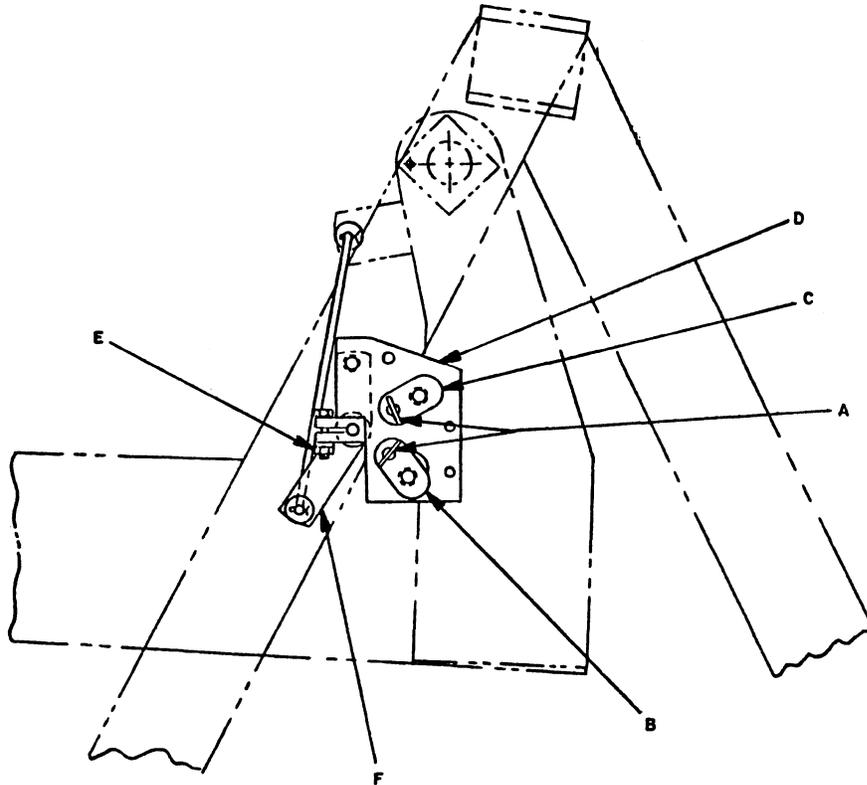

FIGURE 6
1. The first adjustment to be made on the second table is the second table down sensor. With the second table fully down, the magnet located on link, E, should be centered on the electronic sensor which is mounted in the uppermost part of plate, D. This position is shown in Figure 6. If the sensor must be relocated so it is centered on the actuating magnet, loosen the clamping hardware, E, and rotate plate, D, until the electronic sensor mounted in plate, D, is centered on the actuating magnet mounted on link, F. Retighten the clamping hardware, E. When relocating this portion of the linkage, maintain a very minimum amount of end play between the sensor mounting assembly and link, F. There should be no more clearance than that necessary to allow link, F, to rotate freely upon its shaft.
Excessive end play between the sensor mounting assembly and clamp block and link, F, will allow an excessive variation in the spacing between the sensor actuating magnet and the sensor itself. This can result in nonoperation of the system if the clearance is too large. Also, the sensor and magnet can be damaged if they are moved too close together so as not to be able to freely pass by each other. Adjust the clearance between the electronic sensor face and the magnet face by screwing the electronic sensor in or out of plate, D, to obtain a $1/16''$ (1.6 mm) maximum clearance. The magnetic sensor must then be locked in place by retightening the locknut which locks it into place, D. Refer to Figure 6.